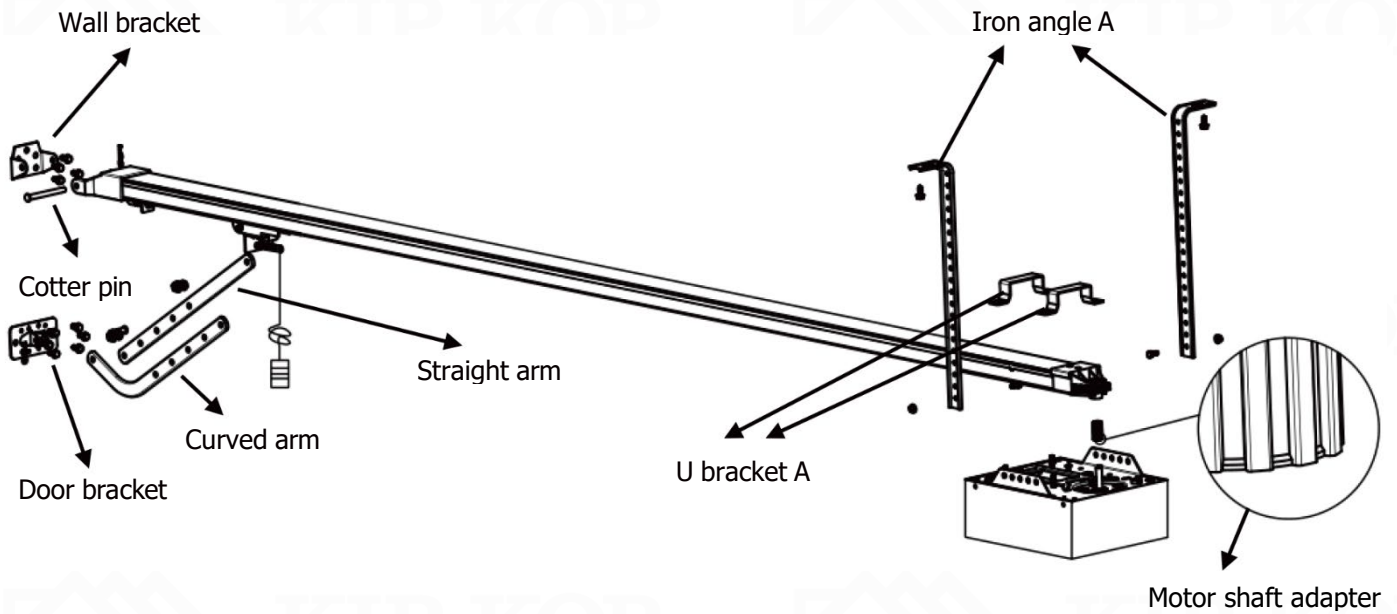

Fig.5
- 3) Attach the motor shaft adapter to the motor shaft according to Fig. 5.